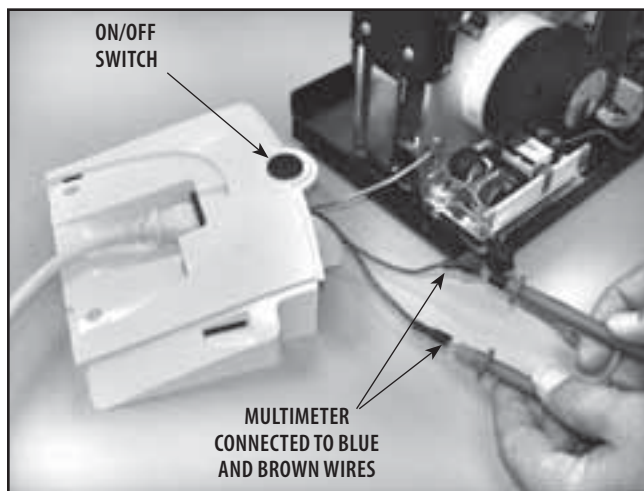

FIGURE 5.5
5. Set Multimeter to AC and to the appropriate voltage setting. Connect Multimeter Leads to the Blue and Brown wire Connectors from the Power Switch. See Figure 5.5.